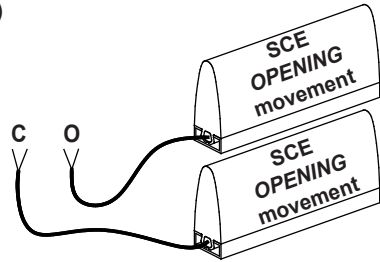

Figure 1: Connection at the coil core
9.1 Connecting to the coil core (figure 1)